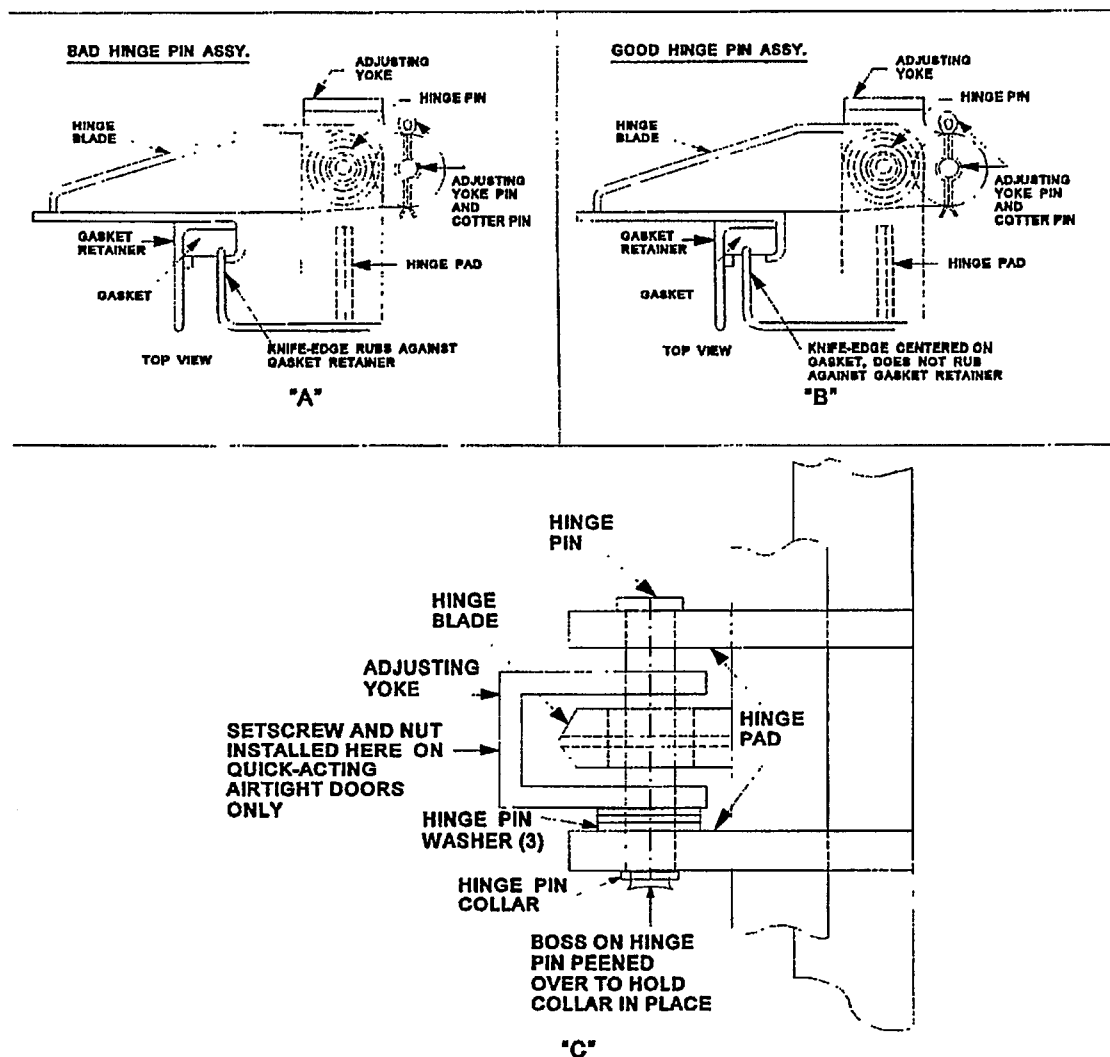

Figure 600-2.31. Hinge Pin Assemblies
- d. Visually inspect the hinge sleeves and hinge pins for wear. With the door opened, grasp the door from the hand lever side, and push toward the hinged side. The door should not give more than approximately 3/16 inch. If it does, either the hinge pins and/or washers are worn, or the holes for the hinge pins have become enlarged. Do not confuse hinge pin wear with normal play in the hinge blades. Another indication of hinge pin wear is if the metal channel surrounding the gasket on the door side is rubbing against the knife-edge, or if the door panel rubs one or more side dogs when opening or closing. See figure 600-2.31, "A". A good hinge and alignment are illustrated in figure 600-2.31, "B". Replace the hinge pin washers and/or pins if any of the following conditions exist: